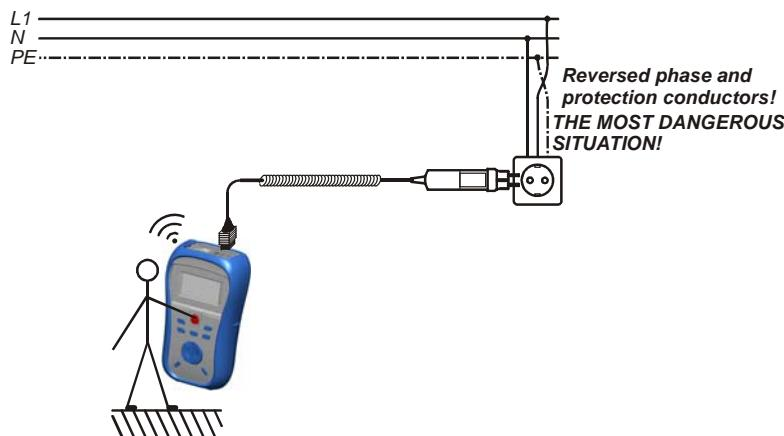

Figure 5.41: Reversed L and PE conductors (application of plug cable)
- Connect** test leads to the item to be tested (see *figures 5.41 and 5.42*).